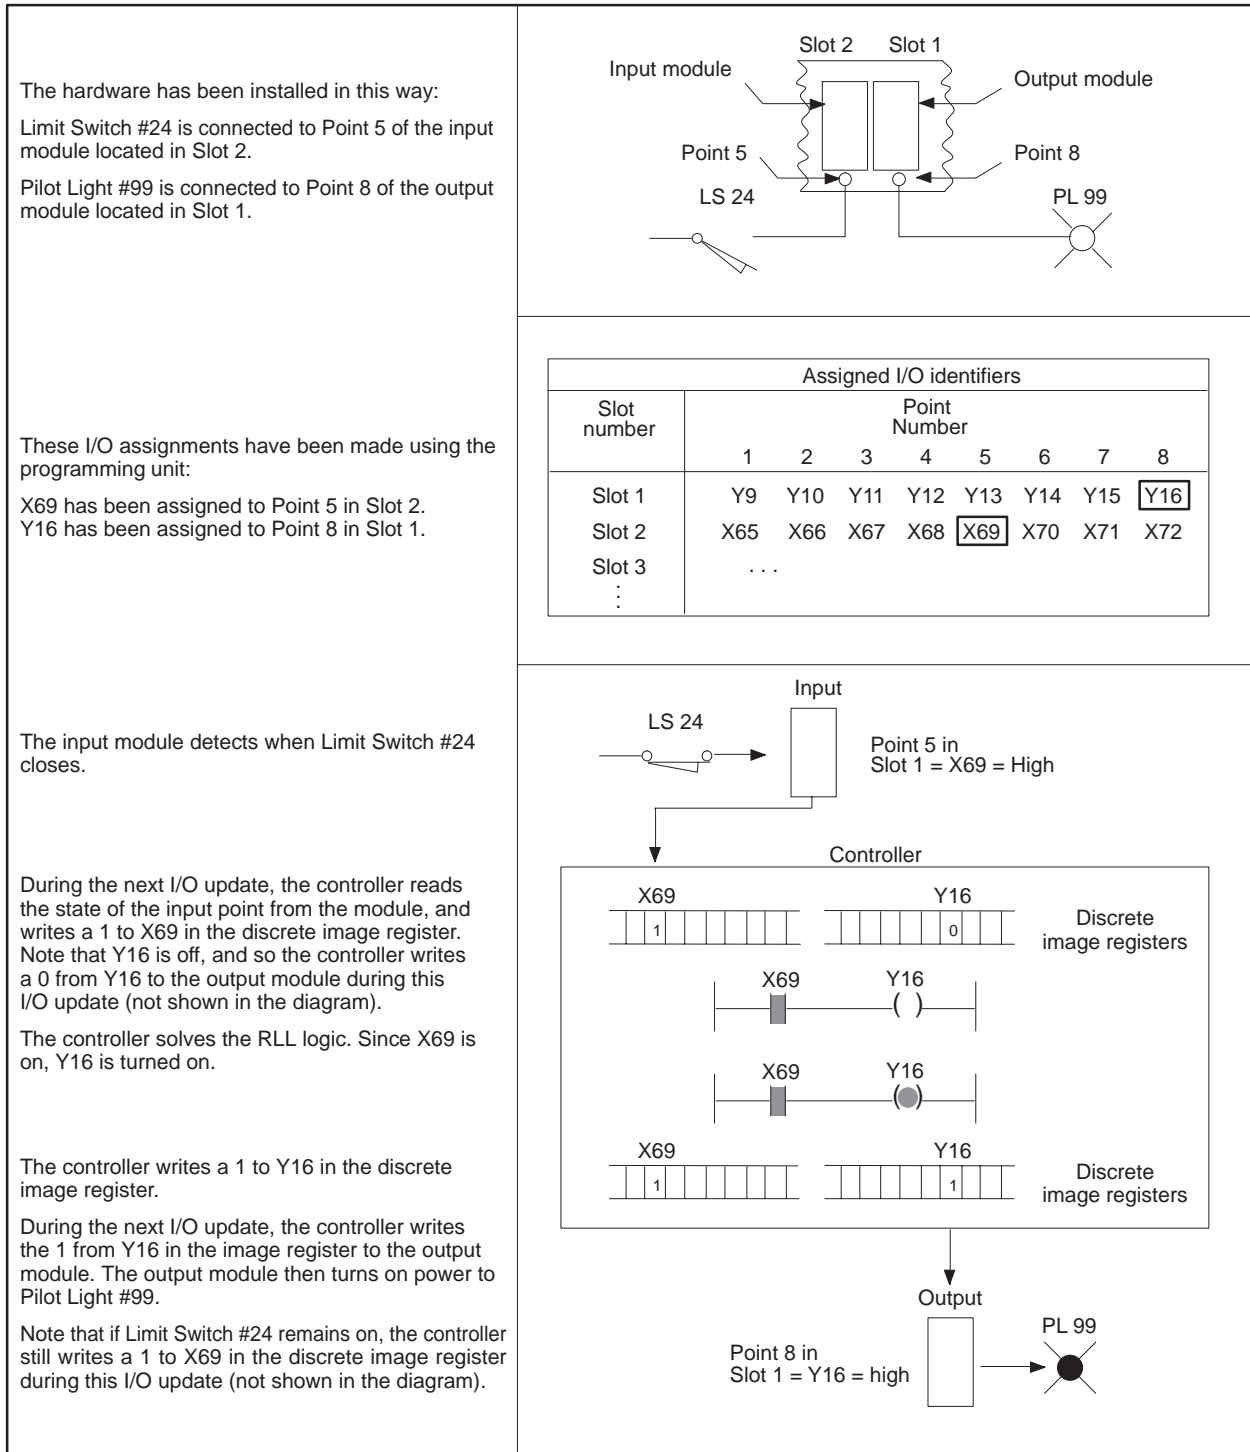

Figure 3-4 Relation of Hardwired Field Devices and the RLL Program
**Discrete Control** To relate the hardwired connections on the equipment that you are controlling to the program inputs and outputs, you need to focus on the function of the image register. For normal I/O updates, the interface between the software RLL program and the physical hardware occurs within the image register. Refer to Figure 3-4 for an example of the discrete operation in which a limit switch controls the state of a pilot light.